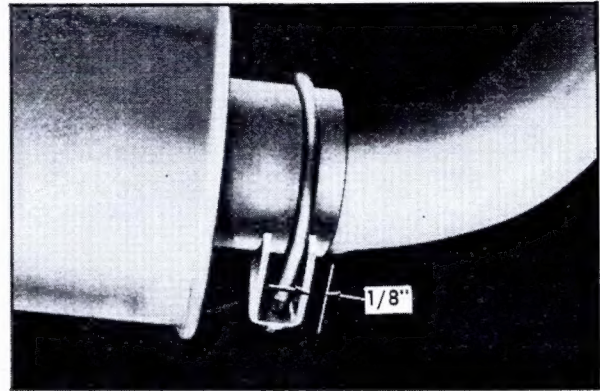

Fig. 8-7 Muffler to Resonator Pipe Clamp
pipe and toward left side of car, Fig. 8-7. Tighten nuts to 30 foot-pounds.
8. Position clamp between muffler-to-resonator pipe so there is 1/8 inch between saddle of clamp and edge of resonator inlet pipe, Fig. 8-7.